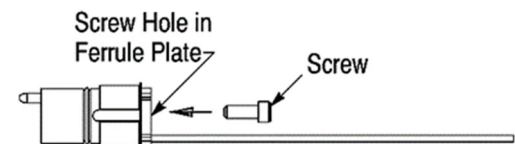

Figure 11
2. Align the end of the ferrule assembly with the appropriate channel cavity of the EB insert, and insert the ferrule assembly into the channel cavity until the O-ring is against the channel cavity. See Figure 11, Detail A. To avoid damage to the fiber, DO NOT push on the fiber to install the ferrule assembly.
3. Slide the spring over the fiber until it is against the O-ring of the ferrule assembly. See Figure 11, Detail B.
4. Using the ferrule insertion tool, **push on the spring** until the ferrule assembly bottoms in the channel cavity (the spring will protrude slightly from the cavity). See Figure 11, Detail C.
5. Align the index pin hole of the ferrule plate with the index pin at the back of the EB insert, and slip the fiber into the closest slotted hole in the ferrule plate. See Figure 11, Detail D.
6. Hold the ferrule plate against the EB insert, making sure that the index pin enters the index hole. Thread the screw through the screw hole in the ferrule plate and into the hole in the EB insert. See Figure 11, Detail E. Using the 2-mm hex wrench and torque wrench or torque stand, tighten the screw to a torque between 0.8 and 1 N·m. Check to make sure that the ferrule plate is flush with the EB insert.
- Added ferrule insertion tool illustration to Figure 11, Detail B